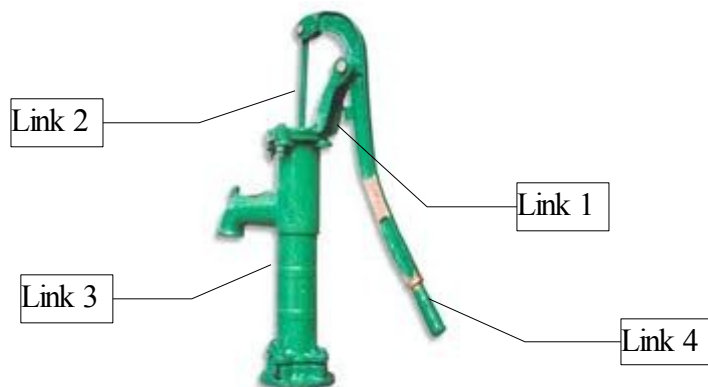

Fig. 1.19
**d) Hand Pump :** As shown in fig. 1.19, by keeping the link 3 fixed, this type of inversion is obtained. This mechanism is mostly used for operating hand pump.